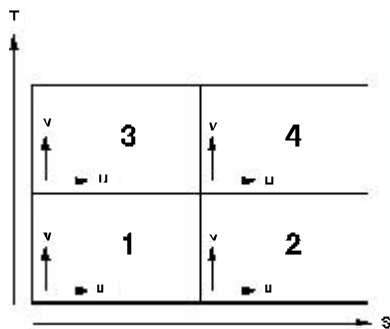

Figure 4-3
- Then reselect all surfaces in the S direction (see Fig. 4-3).